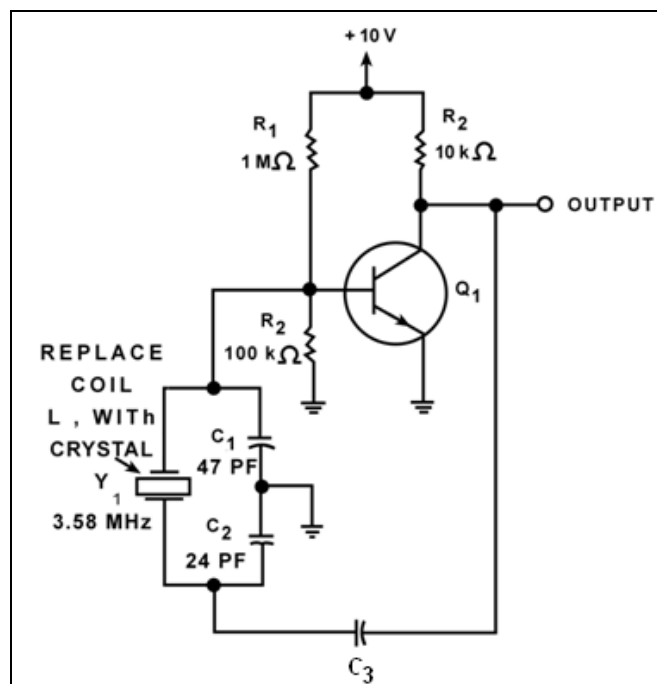

Fig. 2-3 Parallel Resonant Colpitts Crystal Oscillator
7. Turn off the Trainer. Refer to Fig. 2-3 and remove the 47 microhenry inductor and connect the crystal in its place. Be sure to connect the .01 pF feedback capacitor to the tank circuit as shown.